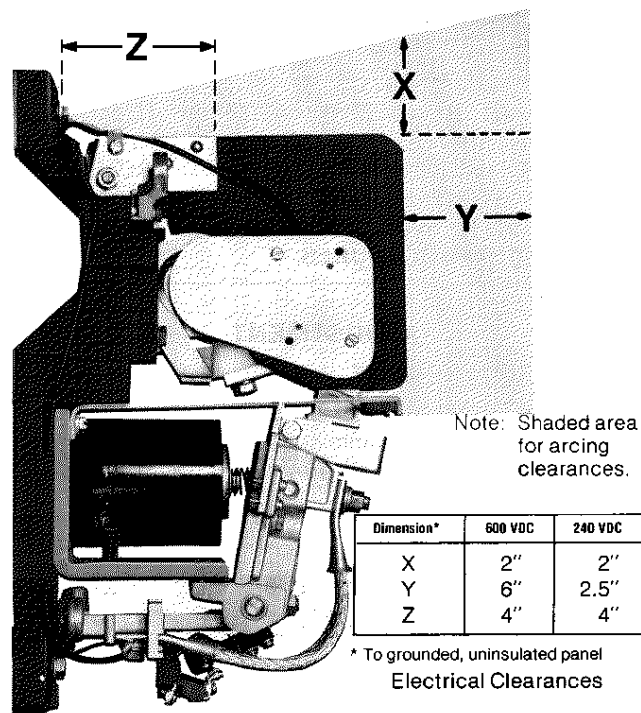

Figure 1
2. Check nameplate data for correct equipment. Check that the contactor operating coil (39) is the correct voltage.
4. Mount the contactor vertically on a rigid support and fasten down tightly using a plain washer against the contactor base. Provide the clearance shown in (Fig. 1) above the top of the contactor and in front of the arc chute for pivoting or removal of the arc chute and for electrical clearances.
6. With all power removed, pivot the arc chute upwards and operate the contactor by hand. The contact tips (10) should meet squarely. If they do not, align them by the procedure in the ADJUSTMENT—Contact Tip Alignment instructions in this Service Bulletin.